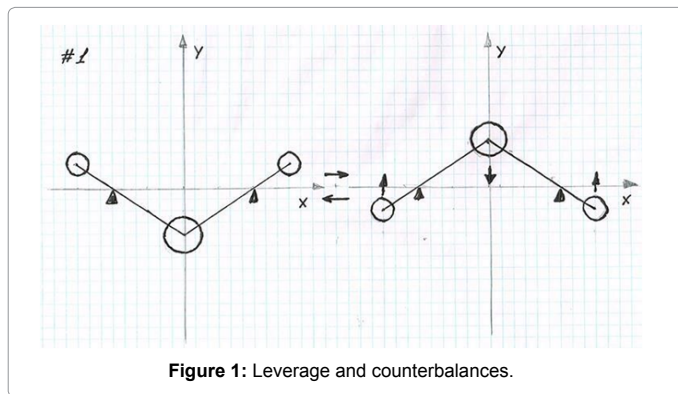

Figure 1: Leverage and counterbalances.
To resolve the problem, I took a different approach and employed balance, leverage and counterbalances as shown on the (Figure 1). The large circle represents the downward moving object or balance smaller circles represent counterbalances (combined mass of both counterbalances equal to the mass of the balance), black triangles represent fulcrums, and lines connecting centers of the circles represent levers. The leverage ratio is 1:2. Due to this ratio, when balance is moving downwards, only half of the energy is used to lift the counterbalances.
But not so fast if we try to flip the system around axis X and repeat the move, we will soon discover that the side where balance is located is heavier than the side with the counterbalances; all energy gain will be lost on flipping. It is obvious on the Figure 1 that the center of the large circle is twice farther from rotation axis X than centers of both counterbalances.
3. Point of 180 degree rotation (axis x as on Figures 1 and 2 are directed towards you)